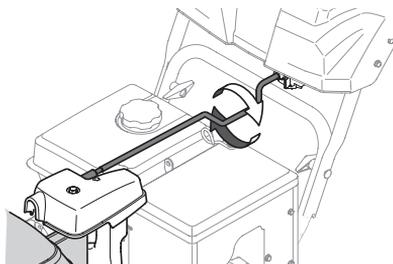

Figure 71
4. Grasp indented portion of chute control rod and manually rotate chute assembly to the right or to the left (Figure 71).